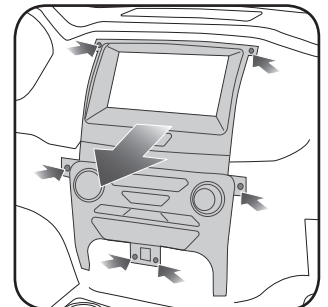

Fig. 1.6
6. Remove six (6) 7mm screws holding the radio and climate control panel. Unplug and remove the panel. (Fig. 1.6)